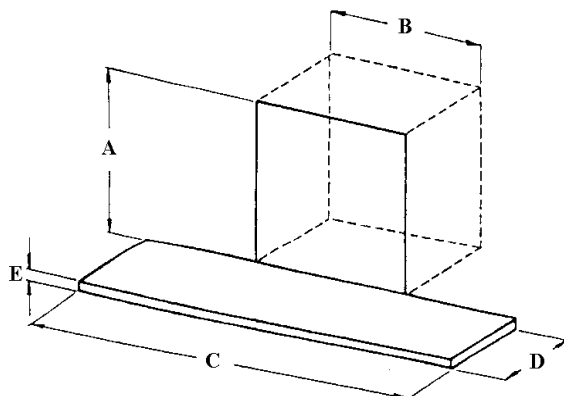

FIGURE 1.
The recess into which the fire box is to be fitted should conform to the dimensions shown in Figure 1, dependant on the model chosen. If a chairbrick is already in position, this must be removed and the recess cleared to permit the provision of a debris collection space behind the appliance.
3.1. Check that the appliance is the correct size for the fireplace into which it is to be installed. See Figure 1.